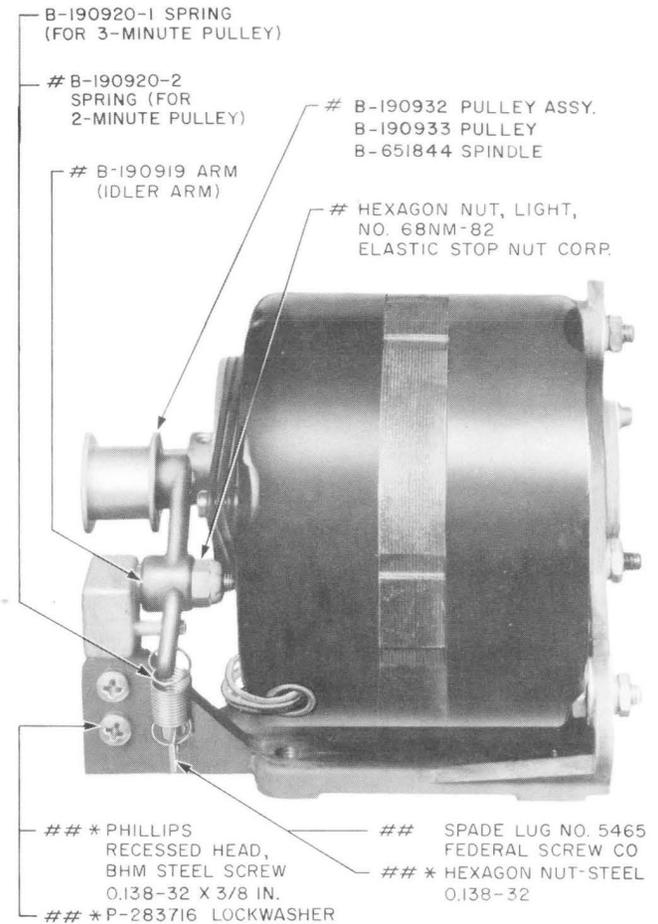

Fig. 11—Details of B-650683 Idler Assembly
- (2) Using the 474A wrench, remove the hexagon nut (Fig. 11) securing the idler arm on the shaft and remove the arm and pulley assembly.
- (3) Using the 3-inch C screwdriver, remove the idler pulley from the idler arm by turning the spindle of the idler pulley counterclockwise.
- (4) Replace either the idler arm or idler pulley as required, being sure the lockwasher is between the boss on the idler arm and the spindle of the idler pulley.
- (5) Reassemble the idler arm and idler pulley on the shaft; do not tighten the hexagon nut excessively.
- (6) Rehook the tension spring to the idler arm, and check the requirements of the flat drive belt (Section 034-354-701).
- (7) Using the 4-inch B screwdriver, remove the two screws (Fig. 11) which fasten the idler assembly to the motor support and remove the idler assembly.
- (8) Using the proper Allen wrench, loosen the setscrew in the collar of the drive pulley and remove the pulley.
- (2) Using the 6-inch B screwdriver, remove the four screws and lockwashers which fasten the drive assembly to the base of the recorder and remove the drive assembly.
- (3) Unhook the idler spring from the idler arm.
- (4) Using the 4-inch B screwdriver, remove the two screws (Fig. 11) which fasten the idler
(7) Using the 4-inch B screwdriver, remove the two screws (Fig. 11) which fasten the idler assembly to the motor support and remove the idler assembly.
(8) Using the proper Allen wrench, loosen the setscrew in the collar of the drive pulley and remove the pulley.